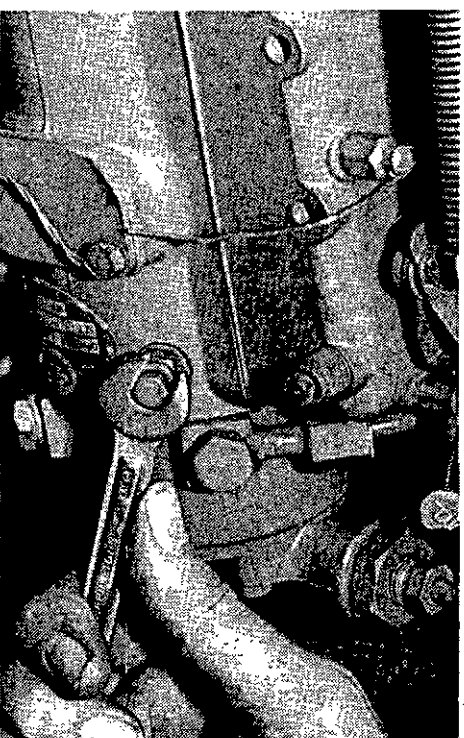

Fig. 15 Vent screw on hydraulic head
4 Loosen the vent screw on the fuel injection pump hydraulic head locking screw on the side of the fuel injection pump (see fig. 15).
- Headlocking screw on the fuel injection pump (fig. 15).